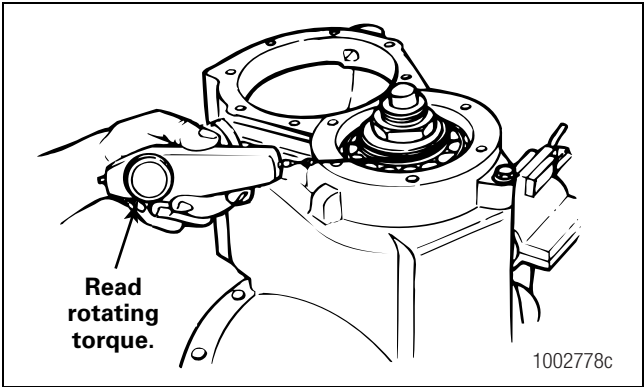

Figure 5.17
3. Pull the spring scale and cord in a horizontal direction while looking at the reading on the spring scale. Figure 5.17.